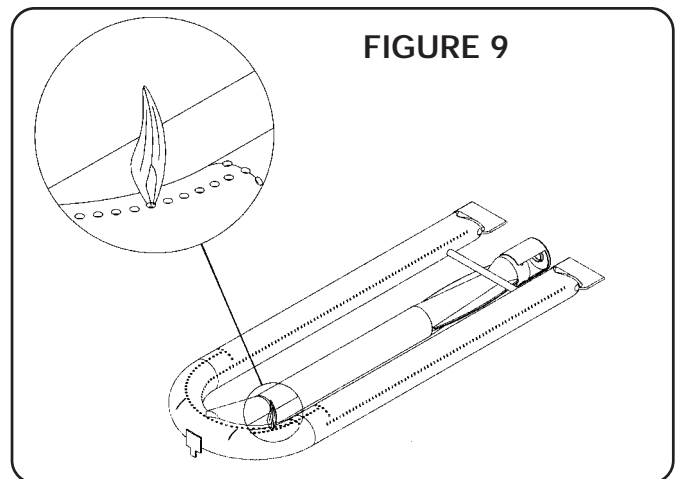

FIGURE 9
4. Locate the main burner orifices. From inside control panel area, locate the brass elbows that the orifices are attached to. Use a wrench on the flats of these elbows to keep them from turning during orifice removal and installation. Remove the main burner orifices and replace with the LP orifices supplied (marked 54). Do not over-tighten orifices. Orifice must extend a minimum of 1/8" into main burner air shutter with burner installed. Make sure burner will not disengage from orifice, when reinstalled. See burner air adjustment section and Figure 9 (Page 9) to achieve proper flame settings.
All burners are adjusted for proper flame characteristics at time of assembly. If the unit has been converted for use with alternate gas supply, some adjustment of the air shutter on the main burner may be necessary. Refer to Figure 9. If adjustment is required, loosen the screw on the air shutter and close or open shutter as required to achieve proper flame characteristics. Tighten the screw after adjustment.
sive noise when operating on either natural or LP gases. See Figure 9 for pictorial representation of proper flame characteristics.